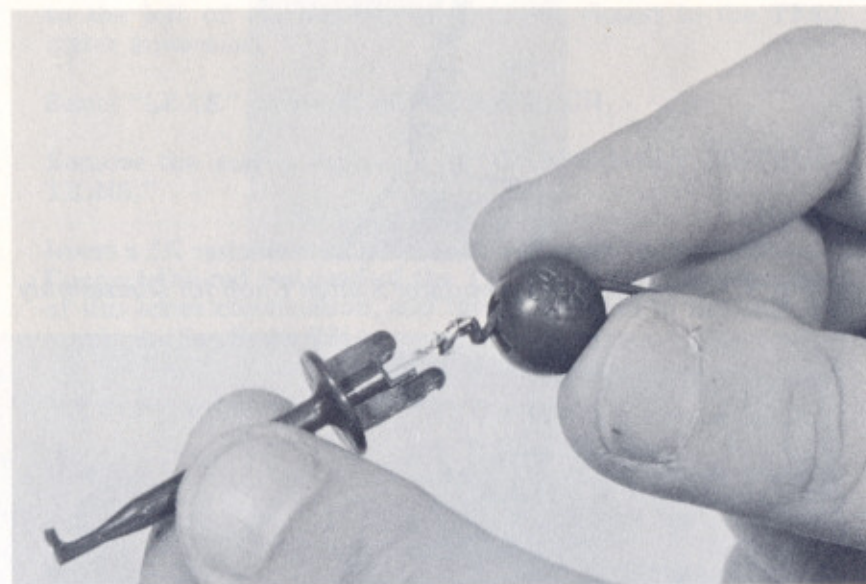

Fig. 20 Disassembly of E-Z Hook® for Service
3. Open the E-Z Hook® by pulling the ball straight off the back of the connector. (See figure 20).